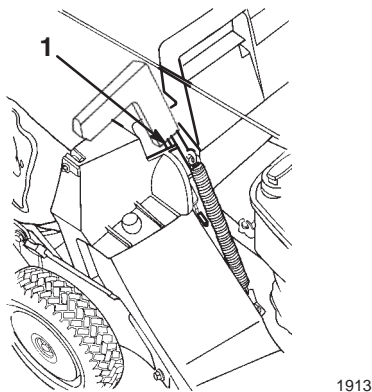

Figure 20
5. Pull the discharge door handle forward and then move it rearward until the pin locks in the bag notch (Fig. 20).